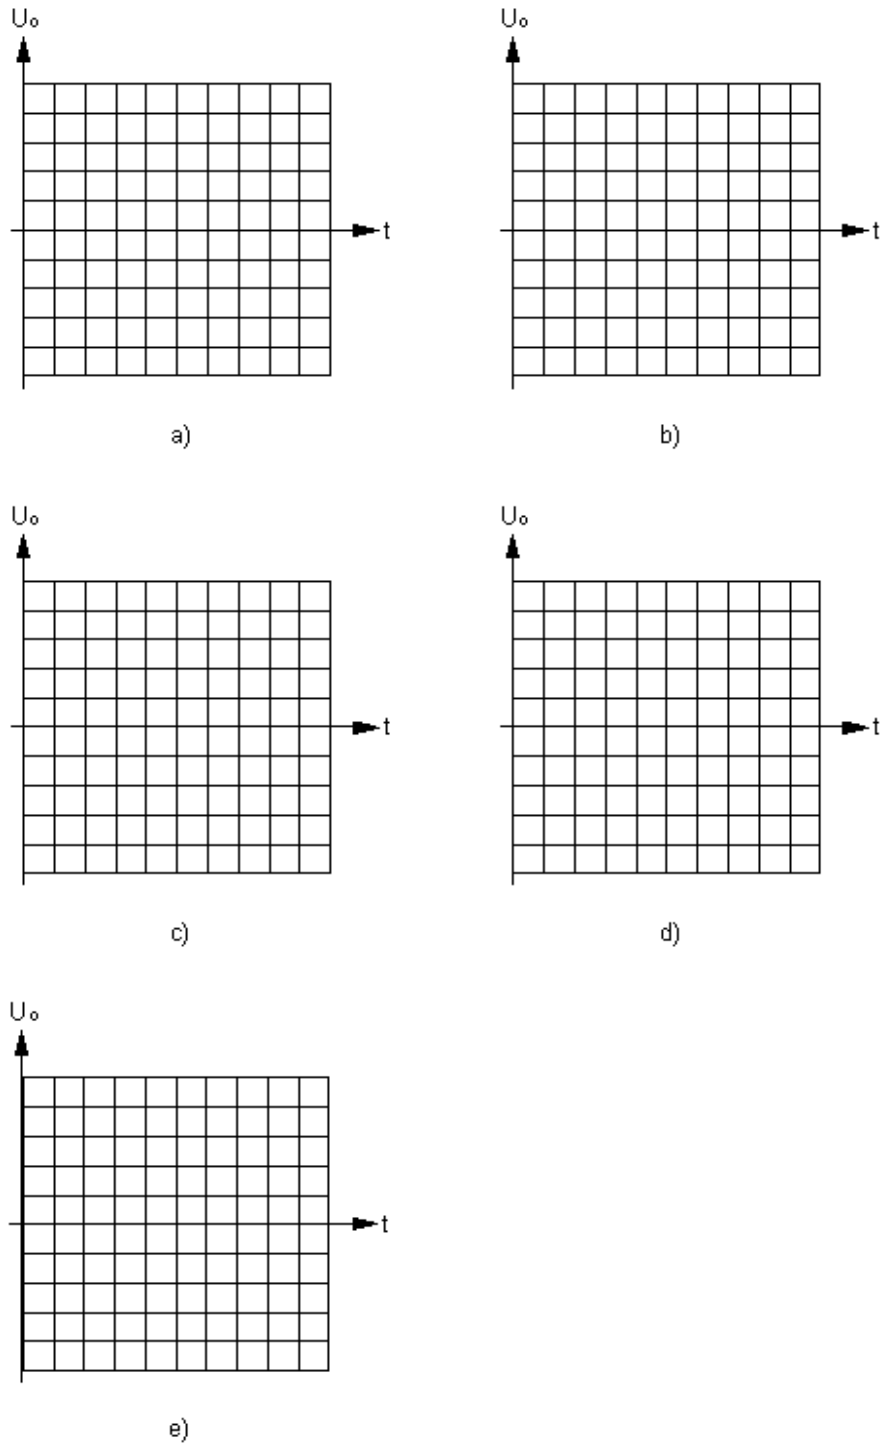

Fig. 2.4
9. draw in Fig. 2.4-a the signals displayed on the oscilloscope.
3. Draw in Fig. 2.4-b the output signal displayed on the oscilloscope: in this case all the negative half-waves have been removed;
6. draw in Fig. 2.4-c the output signal displayed on the oscilloscope;
5. Draw in Fig. 2.4-d the output signal displayed on the oscilloscope.
2. observe the displayed output signal, draw it in Fig. 2.4-e, describe the differences that have been found with the previous circuits;